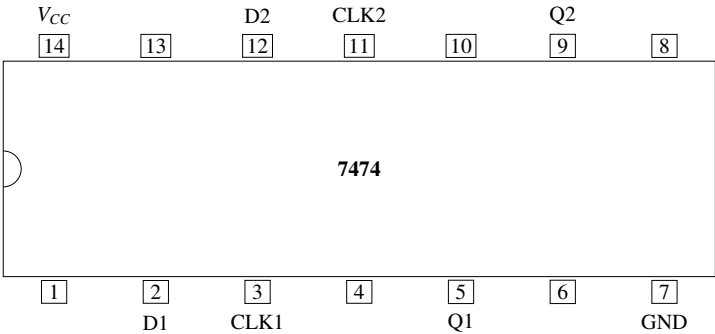
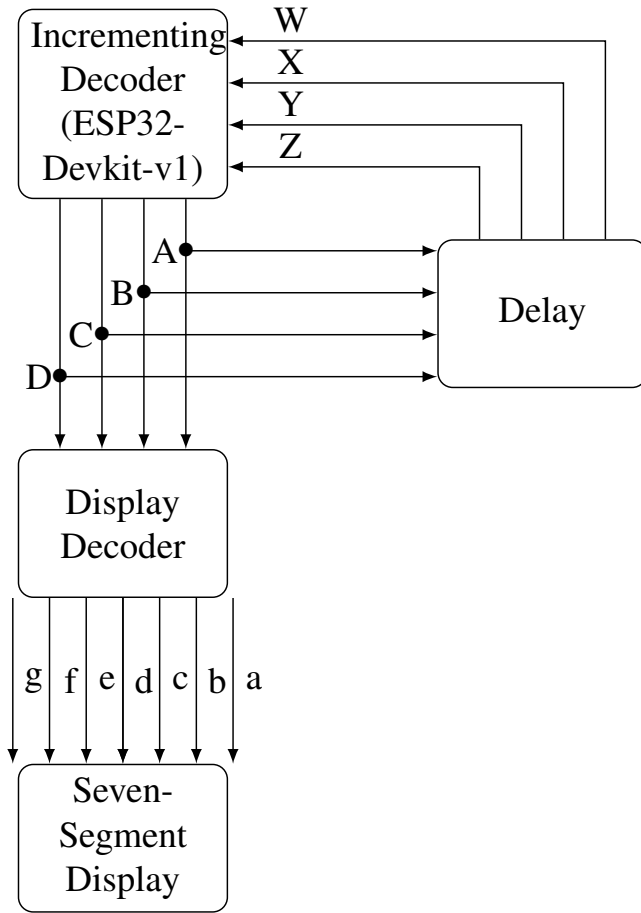
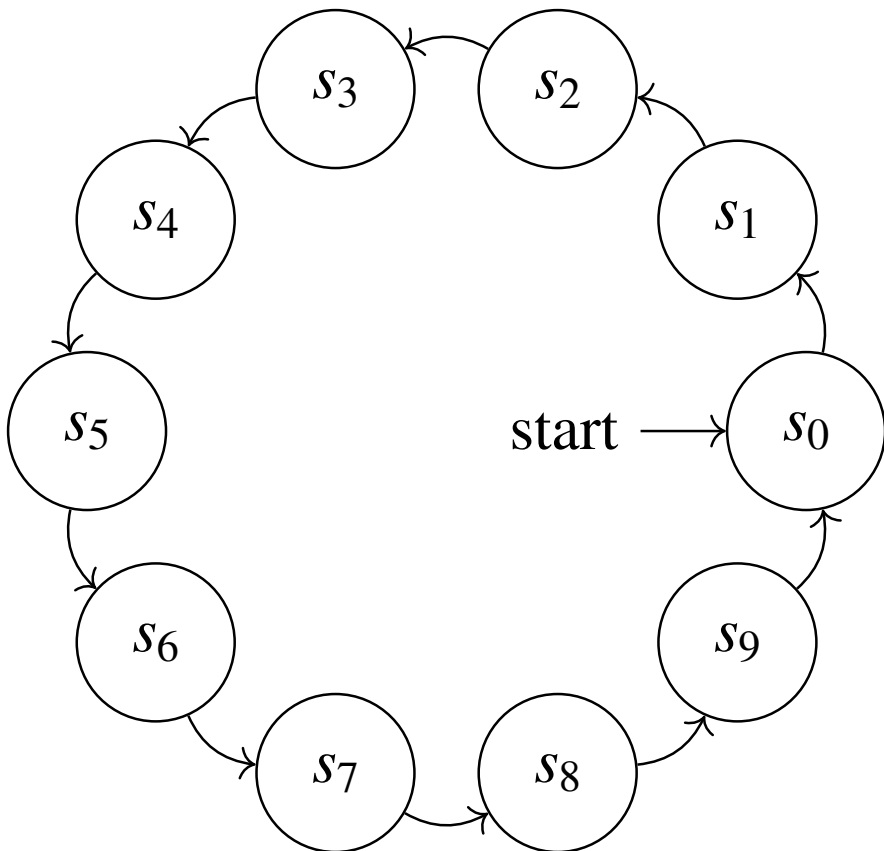
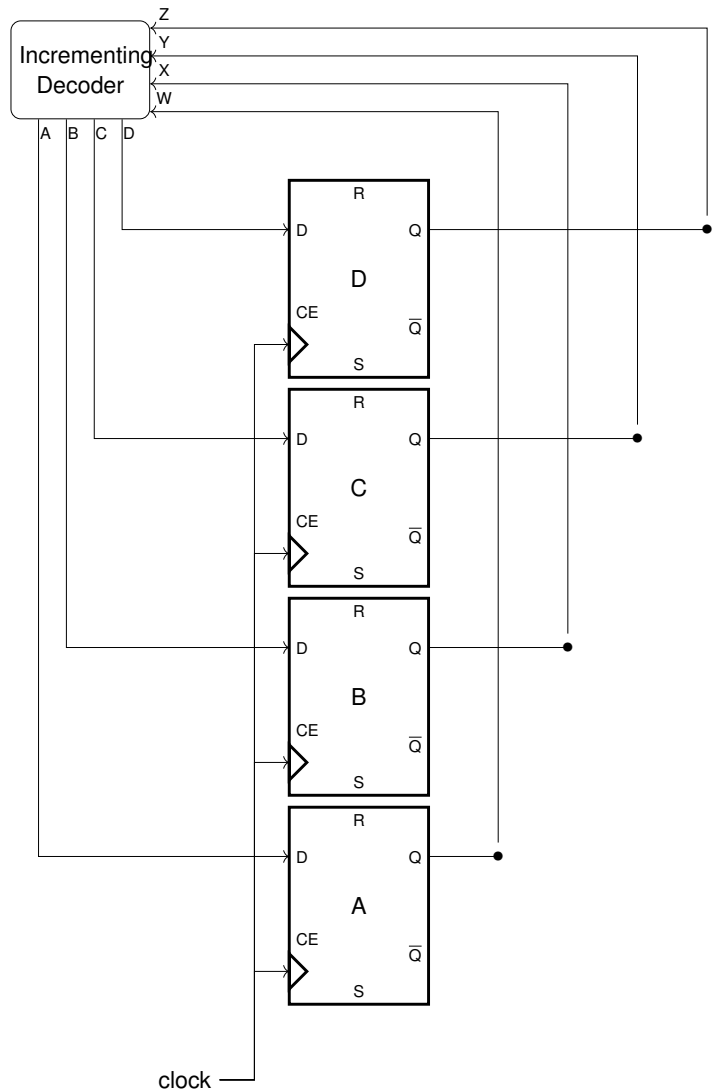

Fig. 5.1
Fig. 5.2
Fig. 6.1: FSM for the decade counter
Fig. 6.2: Decade counter FSM implementation using D-Flip Flops
- 2. Connect the Arduino, 7447 and the two 7474 ICs according to Table 5.1 and Fig. 5.2. The pin diagram for 7474 is available in Fig. 5.1
to realize the decade counter in Fig. 5.2.
The block diagram of a decade counter (repeatedly counts up from 0 to 9) is available in Fig. 5.2. The *incrementing* decoder and *display* decoder are part of *combinational* logic, while the *delay* is part of *sequential* logic.
1. Fig. 6.1 shows a *finite state machine* (FSM) diagram for the decade counter in Fig 5.2 s_0 is the state when the input to the incrementing decoder is 0. The *state transition table* for the FSM is Table 3.4, where the present state is denoted by the variables W, X, Y, Z and the next state by A, B, C, D .
2. The FSM implementation is available in Fig 6.2 The *flip-flops* hold the input for the time that is given by the *clock* This is nothing but the implementation of the *Delay* block in Fig 5.2
For the FSM in Fig 6.1, the number of states is 9, hence the number of flip flops required = 4